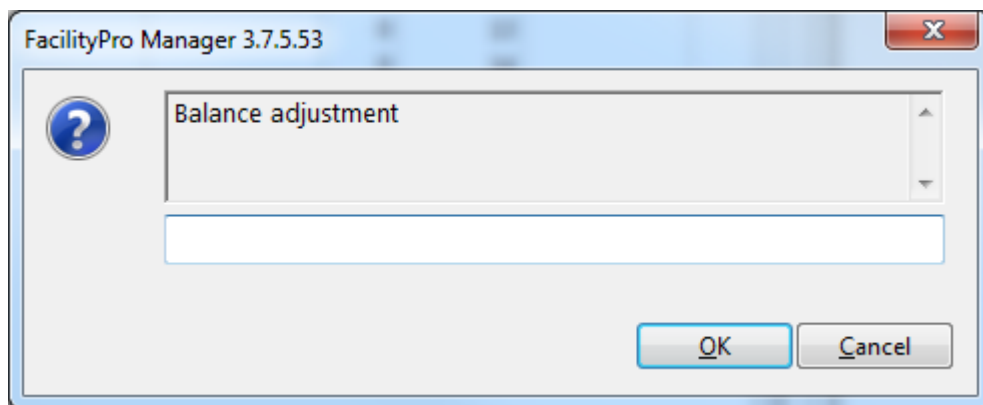

Figure 3-8 The balance adjustment dialog screen
5. Click **Adjust card balance**. You will see the dialog screen shown in Figure 3-8.